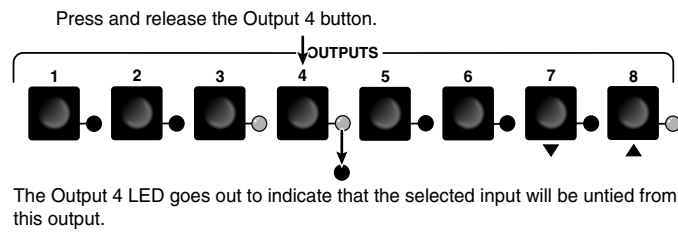

Figure 3-15 — Deselect the output
3. Press and release the Output 4 button (figure 3-15).